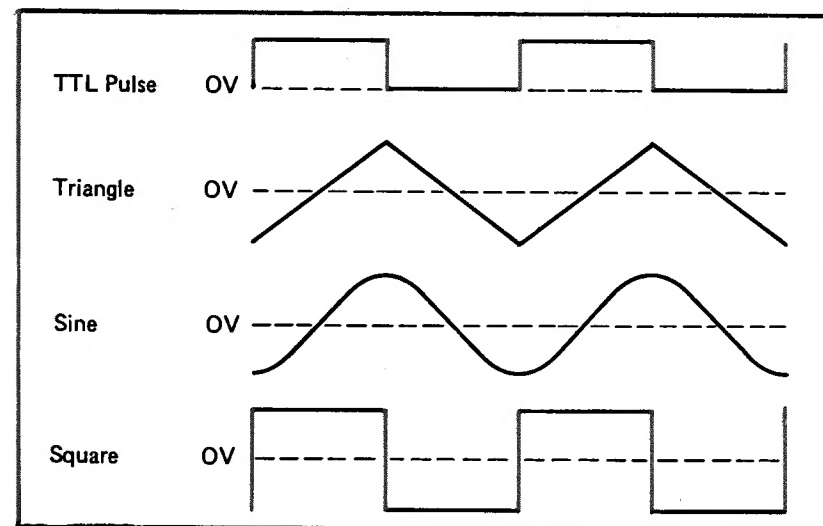

Fig. 3. Output waveforms and phase relationships.
5. Select sine, square, or triangle wave output by pressing the corresponding FUNCTION button. Fig. 3 illustrates the output waveforms and their phase relationships.